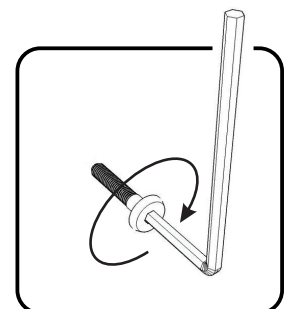

Figure 2
Attach Handles (I) to Side Frames (G) and (H) with Head Cap Bolts. (See Figure 2)